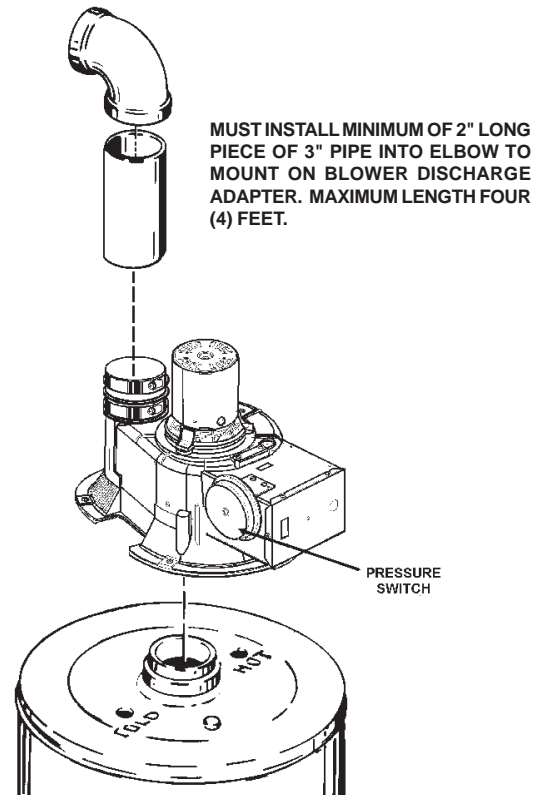

FIGURE 6
1. Layout the total vent system to use a minimum of vent pipe and elbows. Take into consideration that an elbow will be necessary to make the first vent pipe connection to the power venter outlet, see Figure 6.
2. This water heater is capable of venting the flue gases the equivalent of thirty (30) feet of 3 inch pipe or eighty-five (85) feet of 4 inch pipe as listed in Table 1.
3. The blower discharge adapter is made to accept only straight sections of 3" pipe. To start a minimum of 2 inches of 3" pipe must be attached to the blower discharge, see Figure 6.
5. The blower discharge boot is made to accept only straight sections of 3" pipe. To start off with an elbow, a short section of the furnished pipe, a minimum of 2 inches, must be cut and glued into the end of the elbow that will mount on the discharge boot, see Figure 6.